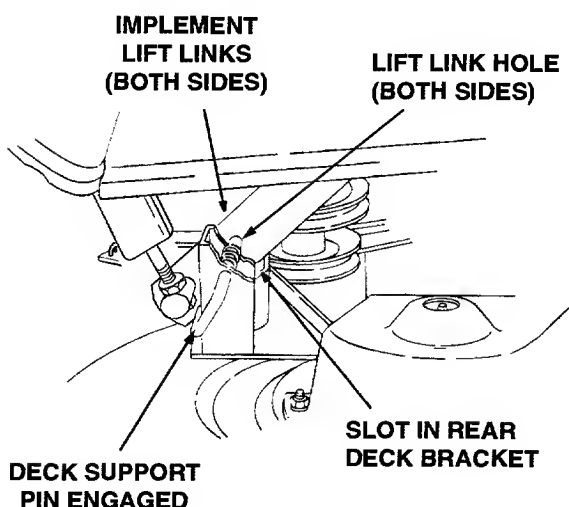

Figure 55
7. Carefully guide the tractor implement lift links (left and right) into the rear deck bracket slots (left and right) as the tractor implement lift handle is lowered to its lowest setting (Refer to Figure 55).
8. Pull both deck support pins outward and rotate rearward to disengage the outer surface of the rear deck brackets. Release the pins, making certain each deck support pin passes through the inner hole of the rear deck bracket. The spring tension will push the pins inward and, if aligned, through the hole in each implement lift link (Refer to Figure 55).